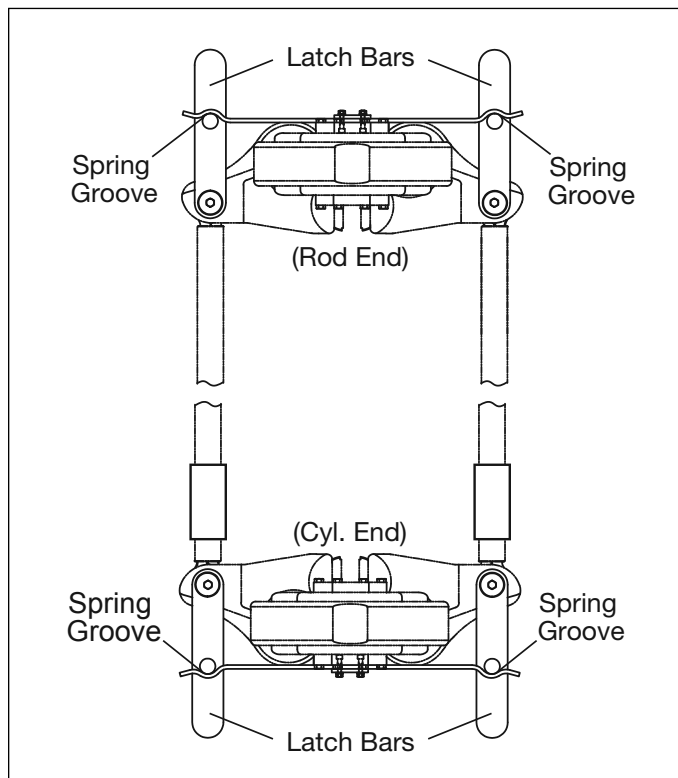

Figure 5, Latch Bars Engaged
1. Engage the four latch bars into the safety spring grooves. See Figure 5.